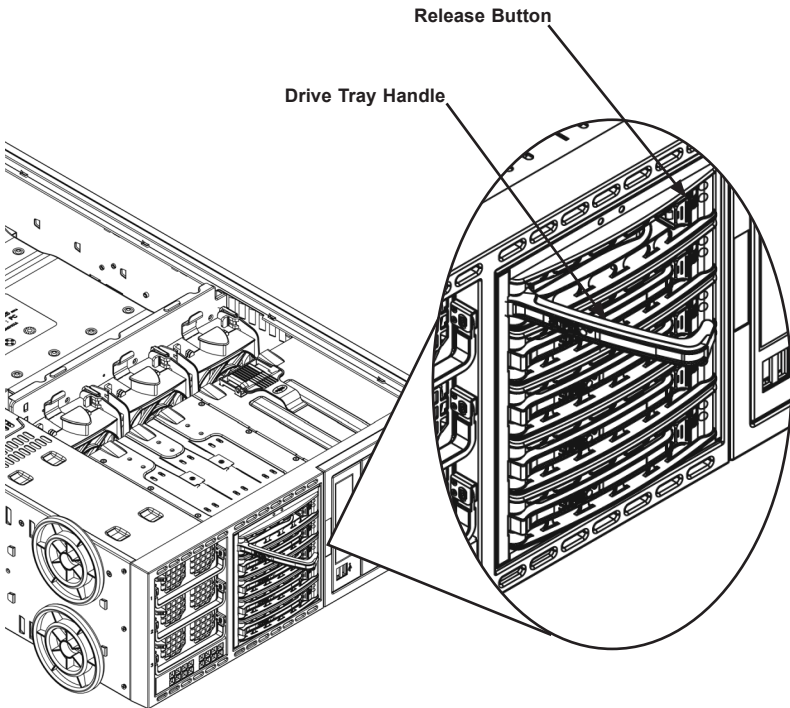

Figure 5-9. Install Hard Drives
2. Using the handle, pull the drive tray out by the handle. The drive is hot-swappable; there are no cables to disconnect (Figure 5-9). Remove the screws holding the drive tray to the dummy drive.